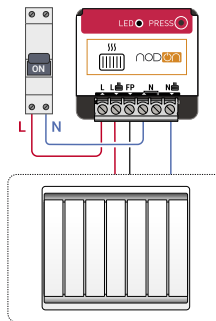

Figure 1
- Cable the module according to diagram figure 1.